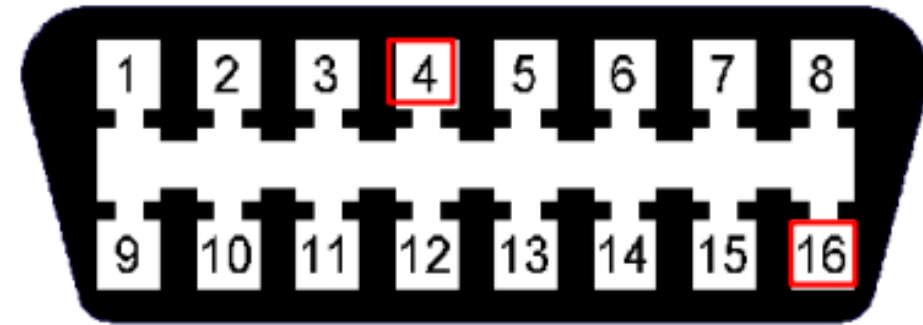

Figure 1 (OBD 2 Connector)
- Connect **AUTO-BLiP Black** wire (Ground) to the wire behind **pin #4** at OBD2 port (Figure 1 above).
- Connect **AUTO-BLiP White** wire (12v source) to the wire behind **pin #16** at OBD2 port (Figure 1 above).